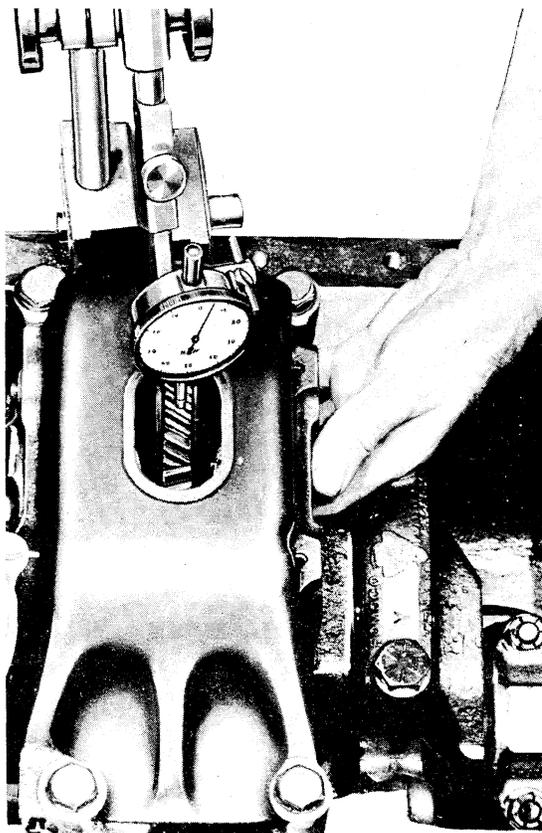

Figure 26
1. Remove the oil pan sump and before removing the balancer check the backlash in four places with a feeler gauge or a dial indicator, Figure 26. See Chapter 4 for backlash specification.